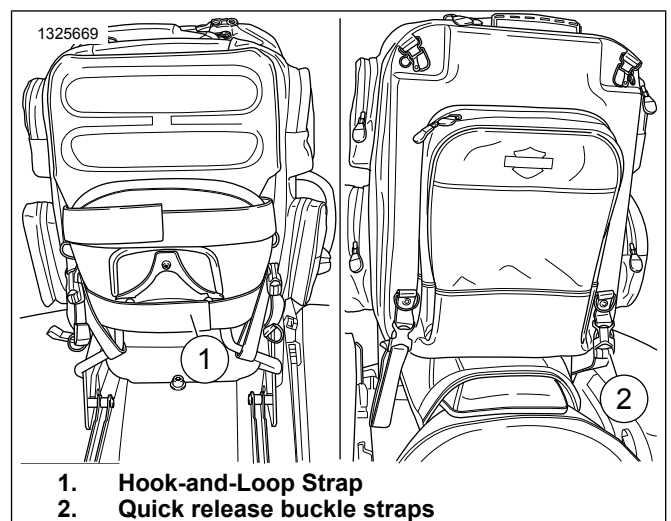

Figure 11. Weekender Bag
- a. See Figure 11. Sissy bar mounting hook-and-loop straps around sissy bar.
- b. See Figure 11. Secure four straps with quick-release buckles to luggage rack, sissy bar or other vehicle structure.
4. See Figure 11. Position bag on passenger pillion seat or luggage rack.